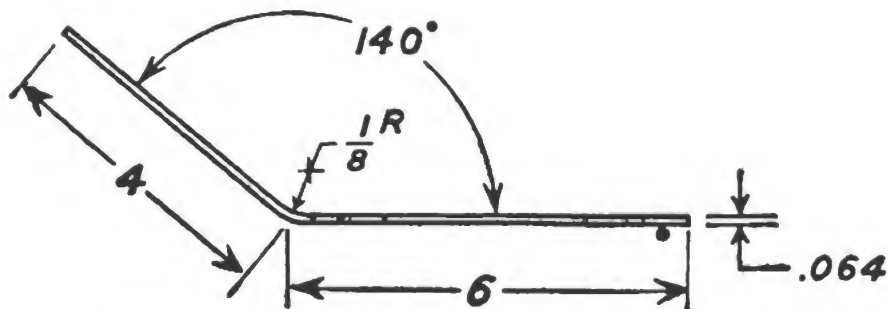

Figure 9-4.—Find the set back for this angle.
-In figure 9-4 you see an angle of 140°—or 50° open.